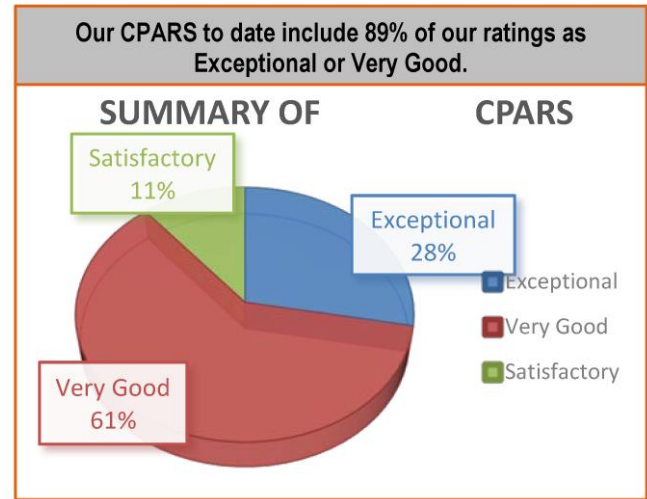

Figure 4 - Example of Past Performance Ratings
- 6.1.B. An easy way to present your past performance with federal contracts is to compile your CPARS data. Provide CPARS data broken out by total number of ratings for cost control, for quality of work, for compliance with performance schedules along with the ratings received for each item. Table 1 and Figure 4 provide examples of how to show compiled data that quickly provides data that we can evaluate.